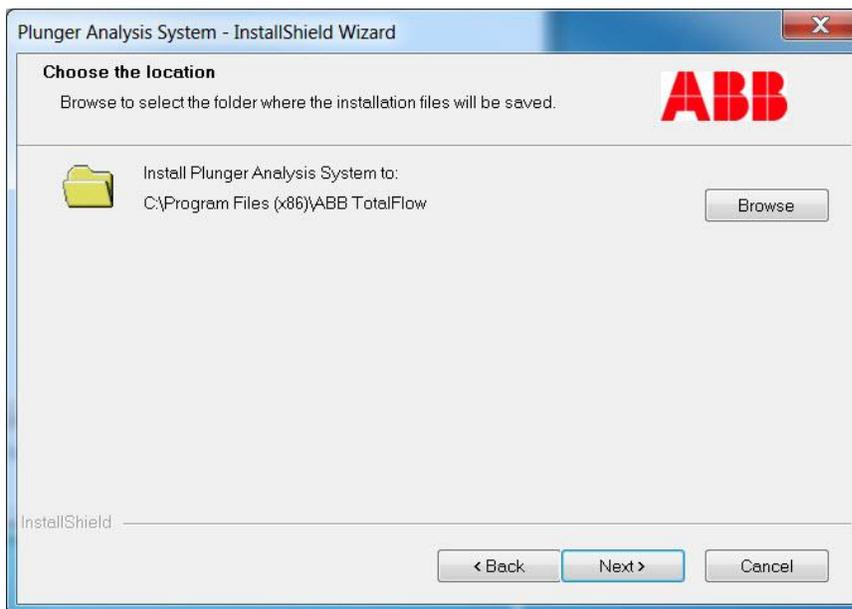

Figure 23: Plunger Analysis System installation screen to choose the location
20) At the Choose the Location screen (Figure 23), if not using the default destination folder shown, click **Browse** to define another destination folder.